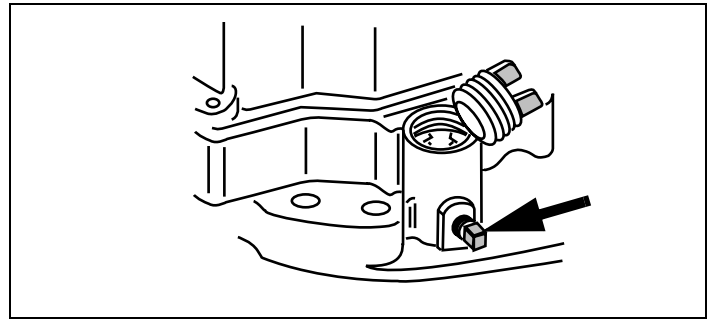

Figure 41. Oil Drain Plug
6. Tip engine to position the oil drain plug at the lowest point on the engine (see equipment manufacturer's instructions). See Figure 41.